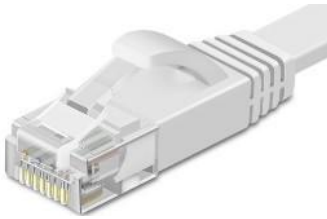

Fig. 13
1. The Core comes with an ethernet cable(see Fig. 13).